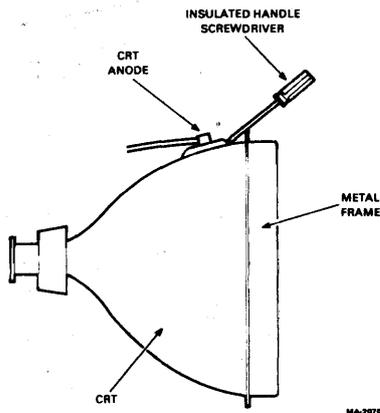

Figure 5-7 CRT Anode Discharging
3. Discharge the high voltage contained at the CRT anode by gently slipping the end of an insulated-handle screwdriver under the plastic anode cap on the top of the CRT while shorting the other end of the screwdriver to a nonpainted metal area of the CRT frame (Figure 5-7).